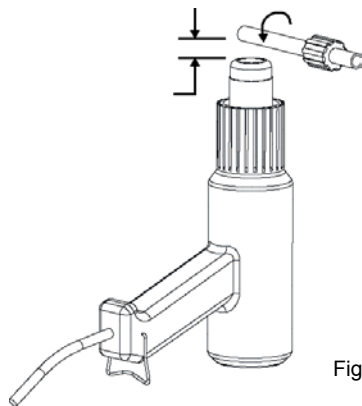

Figure 1
- Set the hot air gun on "High". Hold the PFA tubing end flush with the heater edge and 1/2" to 3/4" above the heater (see Figure 1) and slowly rotate the tubing 360° for 25 seconds, or until a fine, clear line appears around the tubing.